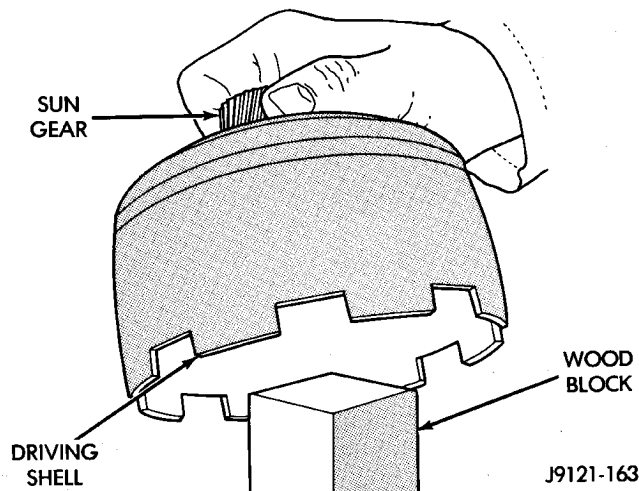

Fig. 175 Supporting Sun Gear On Wood Block
(10) Position wood block on bench and support sun gear on block (Fig. 175). This makes it easier to align and install sun gear lock ring. Keep wood block handy as it will also be used for geartrain end play check.